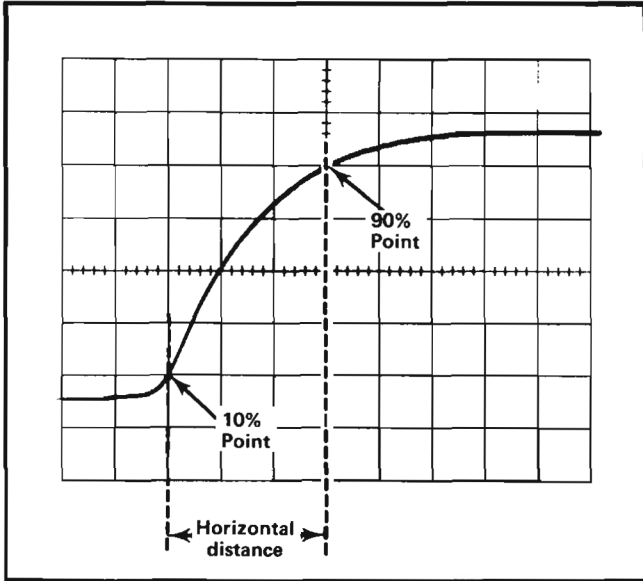

Fig. 2-11. Measuring risetime.
8. Adjust the horizontal POSITION control to move the 10% point of the waveform to the center measurement area. For example, with a five-division display as shown in Fig. 2-11, the 10% point is 0.5 division up from the start of the rising portion.
Example. Assume that the horizontal distance between the 10% and 90% points is three divisions (see Fig. 2-11) and the TIME/DIV switch is set to 1 μs with the MAG switch set to X10. Applying the time duration formula to risetime: